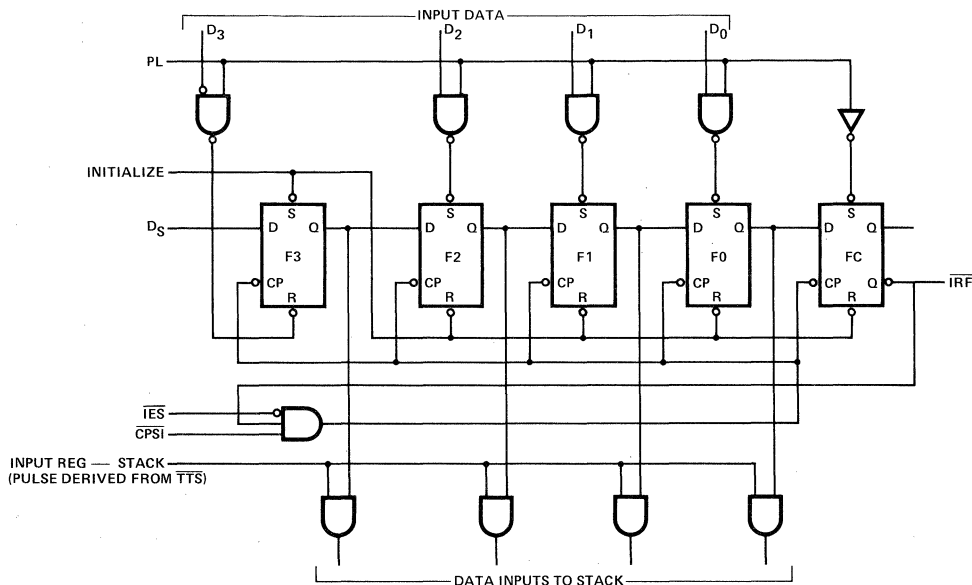

Fig. 1 CONCEPTUAL INPUT SECTION
Figure 1 is a conceptual logic diagram of the input section. As described later, this 5-bit register is initialized by setting the F3 flip-flop and resetting the other flip-flops. The Q output of the last flip-flop (FC) is brought out as the "Input Register Full" output (IRF). After initialization this output is HIGH.